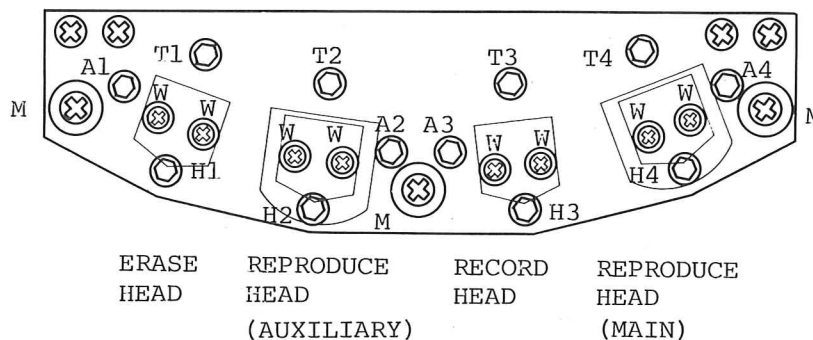

Fig. 5-6 Head Assembly
The head assembly is mounted on three tape-guide posts and secured in place by the three screws labeled "M" in Fig. 5-6.
If tape wrap is incorrect, adjust the wrap by loosening the screws labeled "W" as shown in Fig. 5-6.
2. Observe the reading on the wave analyzer and turn screw "H" (Fig. 5-6) 1/4 turn clockwise.